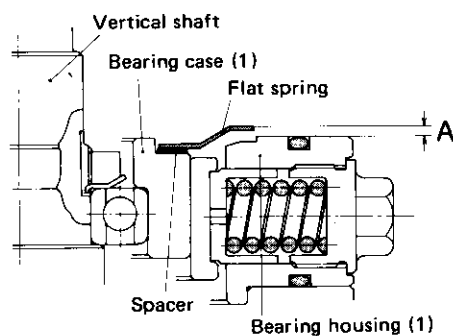

Fig. 6-50
Before installing the flat spring, install spacer on the top of bearing housing (1). The spacer is available in four thickness; 0.5 mm, 1.0 mm, 1.5 mm and 2.0 mm. Select spacer of an appropriate thickness so that the dimension "A" in Fig. 6-50 will conform to the applicable dimension in Table 6-8.